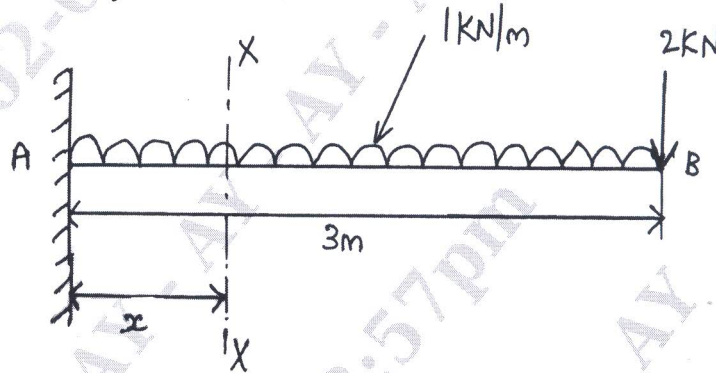

Fig Q8(b)
- b. A cantilever beam is subjected to forces as shown in Fig Q8(b). Determine the slope and deflection at the free end by double Integration method. Take  $E = 2 \times 10^8 \text{kN/m}^2$ ,  $I = 10^{-4} \text{m}^4$ .